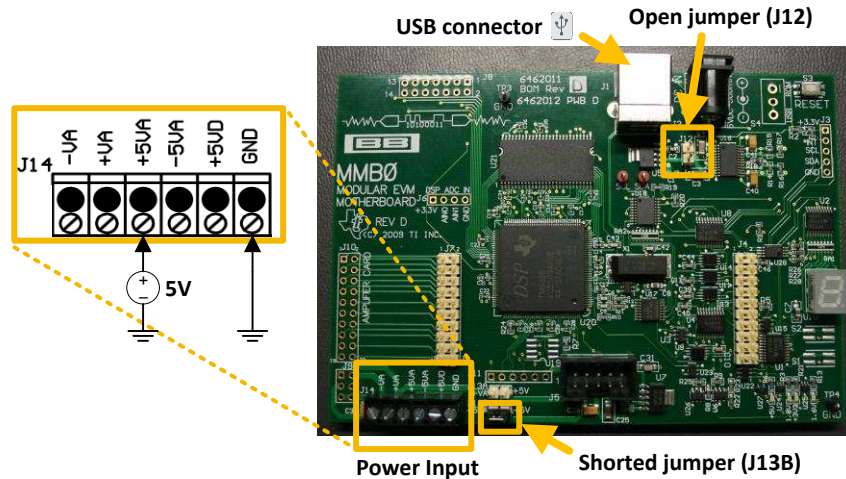

Figure 7. MMB0 Configuration for a Unipolar Bench Power Supply
**NOTE:** For clarity, the ADS126xEVM daughter card is not shown in Figure 6, Figure 7, or Figure 8. The ADS126xEVM may need to be removed from the MMB0 motherboard to access the MMB0 jumpers. Power down the MMB0 board when mounting or removing the ADS126xEVM daughter card.
To use the MMB0 with an external bench power supply, remove the J12 jumper and leave it open, as shown in Figure 7. Removing the jumper allows an external 5-V power supply to be connected to +5VA on the J14 terminal block. Jumper J13B connects +5VA to +5VD and must remain shorted. In this configuration, the MMB0 derives the 3.3-V digital supply for the ADS126xEVM from the 5-V bench supply, and the bench supply directly supplies the analog supply voltage for the ADS126xEVM.